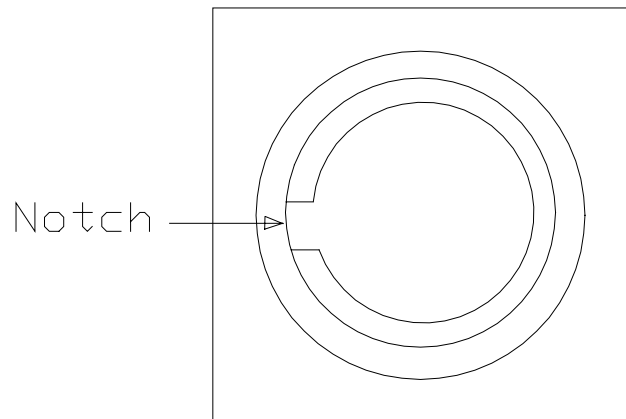

Figure 2. The Bottom View of the Block Positioner.
- b. Remove the circlip sleeve (“c” shaped wire) from the bottom of the cylinder in the block positioner with a tweezers. It is helpful to move the circlip sleeve until a portion of it is exposed at the notch (**Figure 2**) of the block positioner cylinder.
7. If the circlip sleeve is exposed within the notch of the block positioner cylinder, move it so it is not exposed (**Figure 2**).